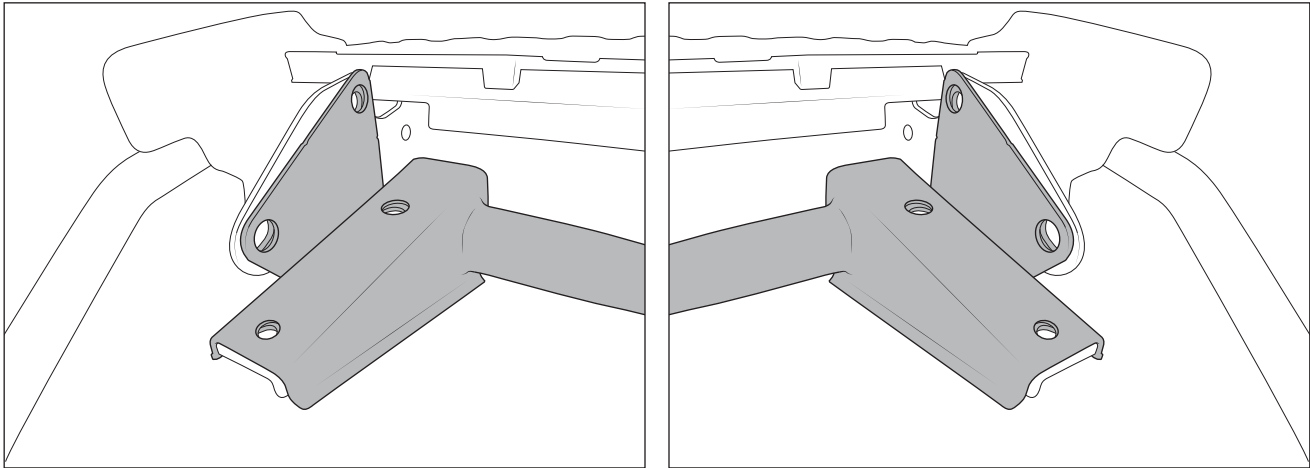

Figure 6
1. Slide the trailer hitch onto new AEV assembly (fig. 6).